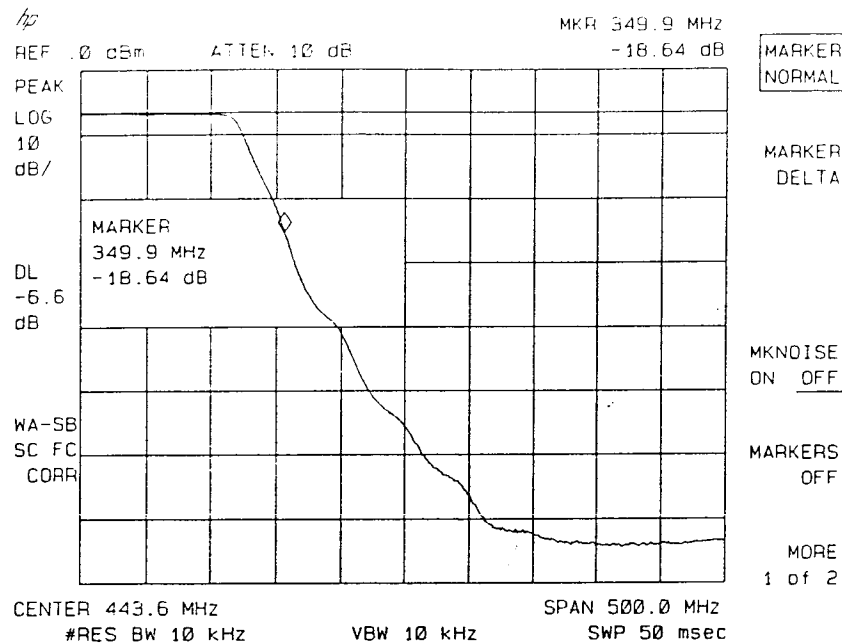

Figure 2-42. Measure the Rejection Range with Delta Markers
9. To measure the rejection of the filter at a given frequency, press **(MKR)**, and enter the frequency. For example, enter 350 MHz. The marker readout displays the rejection of the filter at 350 MHz (see Figure 2-42).